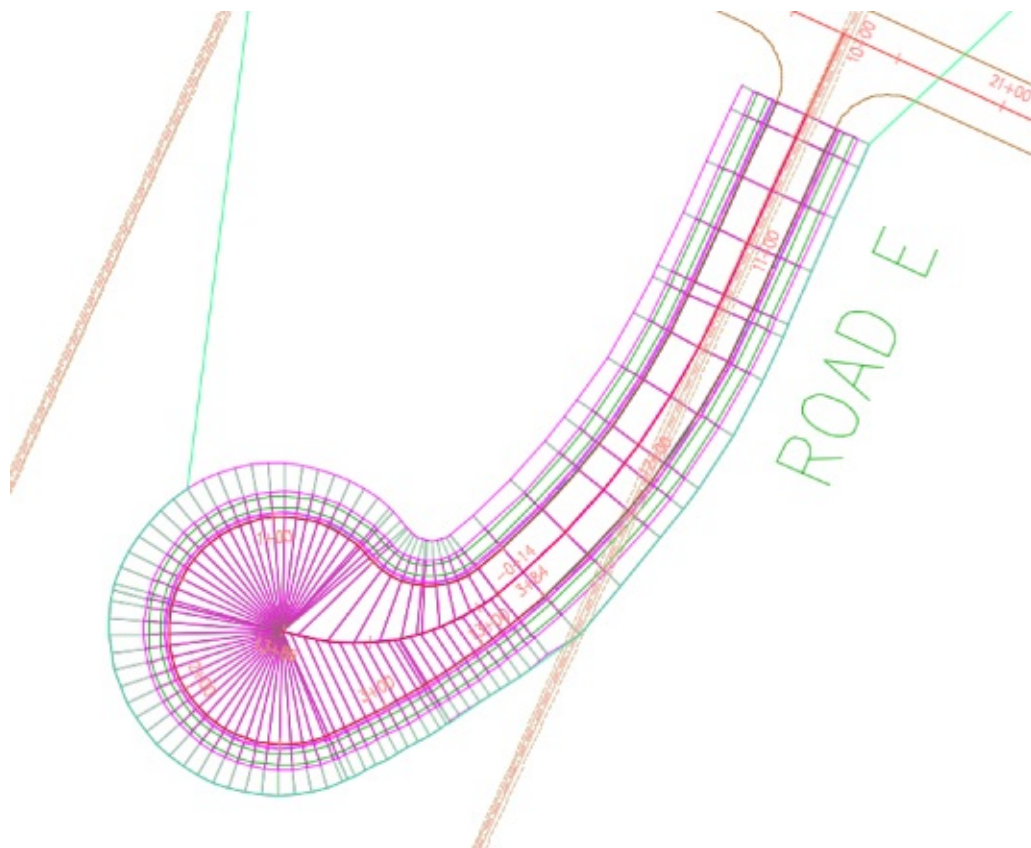

Figure 10.10 The completed cul-de-sac corridor
29. The corridor is completely modeled (see Figure 10.10).